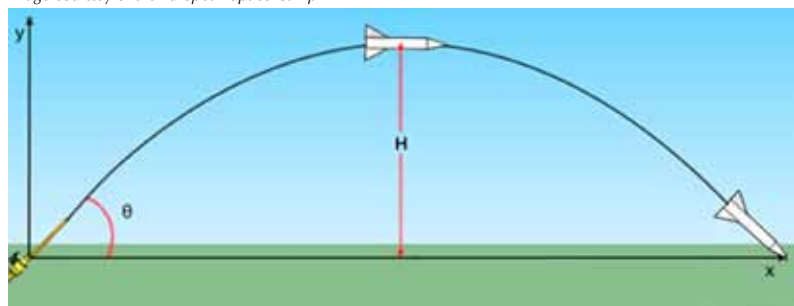

Figure 3: The flight path of the rocket
- Angle of elevation (θ , in degrees; Figure 3, page 40).